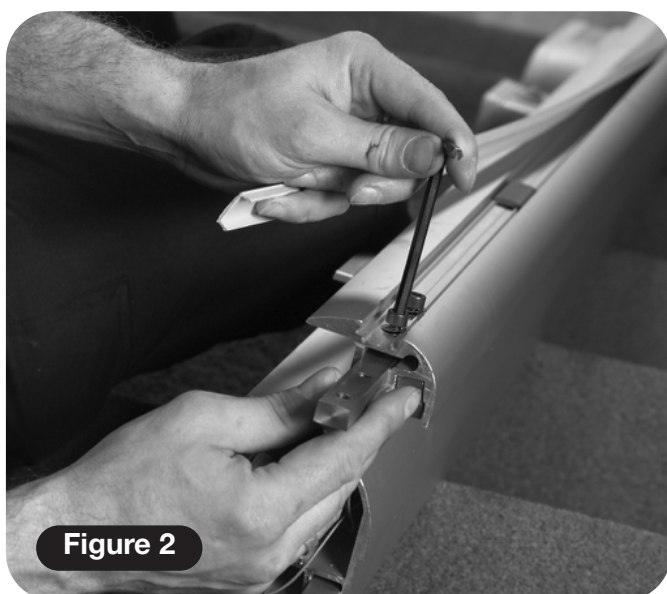

Figure 2
- 2 Bolt in the splice bars to the bottom section of track extrusion **(Figure 2)**.
Note: There are 2 holes in the top and bottom rebated sections of the extrusion to accept the splice bars **(Figure 2)**. Torque setting 8–9Nm.